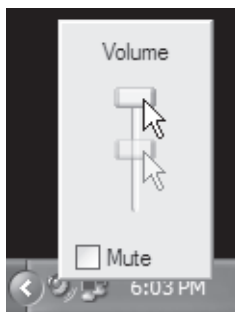

Figure 4
3. Most of the time, you'll want the output volume from the computer at the maximum position, but sometimes it defaults to the middle of the slider, making the output very quiet. The volume can be increased in several ways. The simplest is to click the loudspeaker icon (figure 3) in the system tray and drag the slider to the top (figure 4).